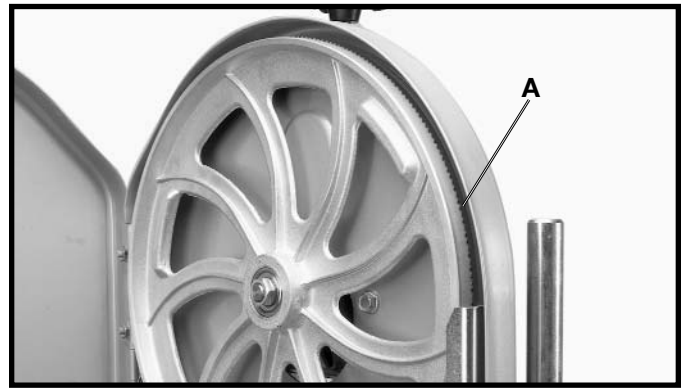
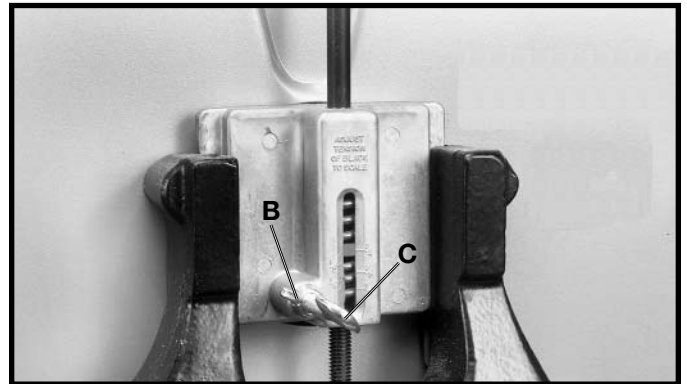

Fig. 31
Fig. 32
After applying tension to the blade, rotate the wheels slowly forward by hand and observe the blade's movement. The blade (A) Fig. 31 should travel in the center of the upper tire. If the blade creeps toward the front edge, loosen the wing nut (B) Fig. 32, and turn the thumb screw (C) clockwise. This action draws the blade toward the center of the tire. If the blade creeps toward the back edge, turn the thumb screw in the opposite direction. Adjust the thumb screw (C) Fig. 32 only a fraction of a turn each time. **NEVER TRACK THE BLADE WHILE THE TOOL IS RUNNING.** After the blade is tracking in the center of the tires, tighten the wing nut (B) Fig. 32.